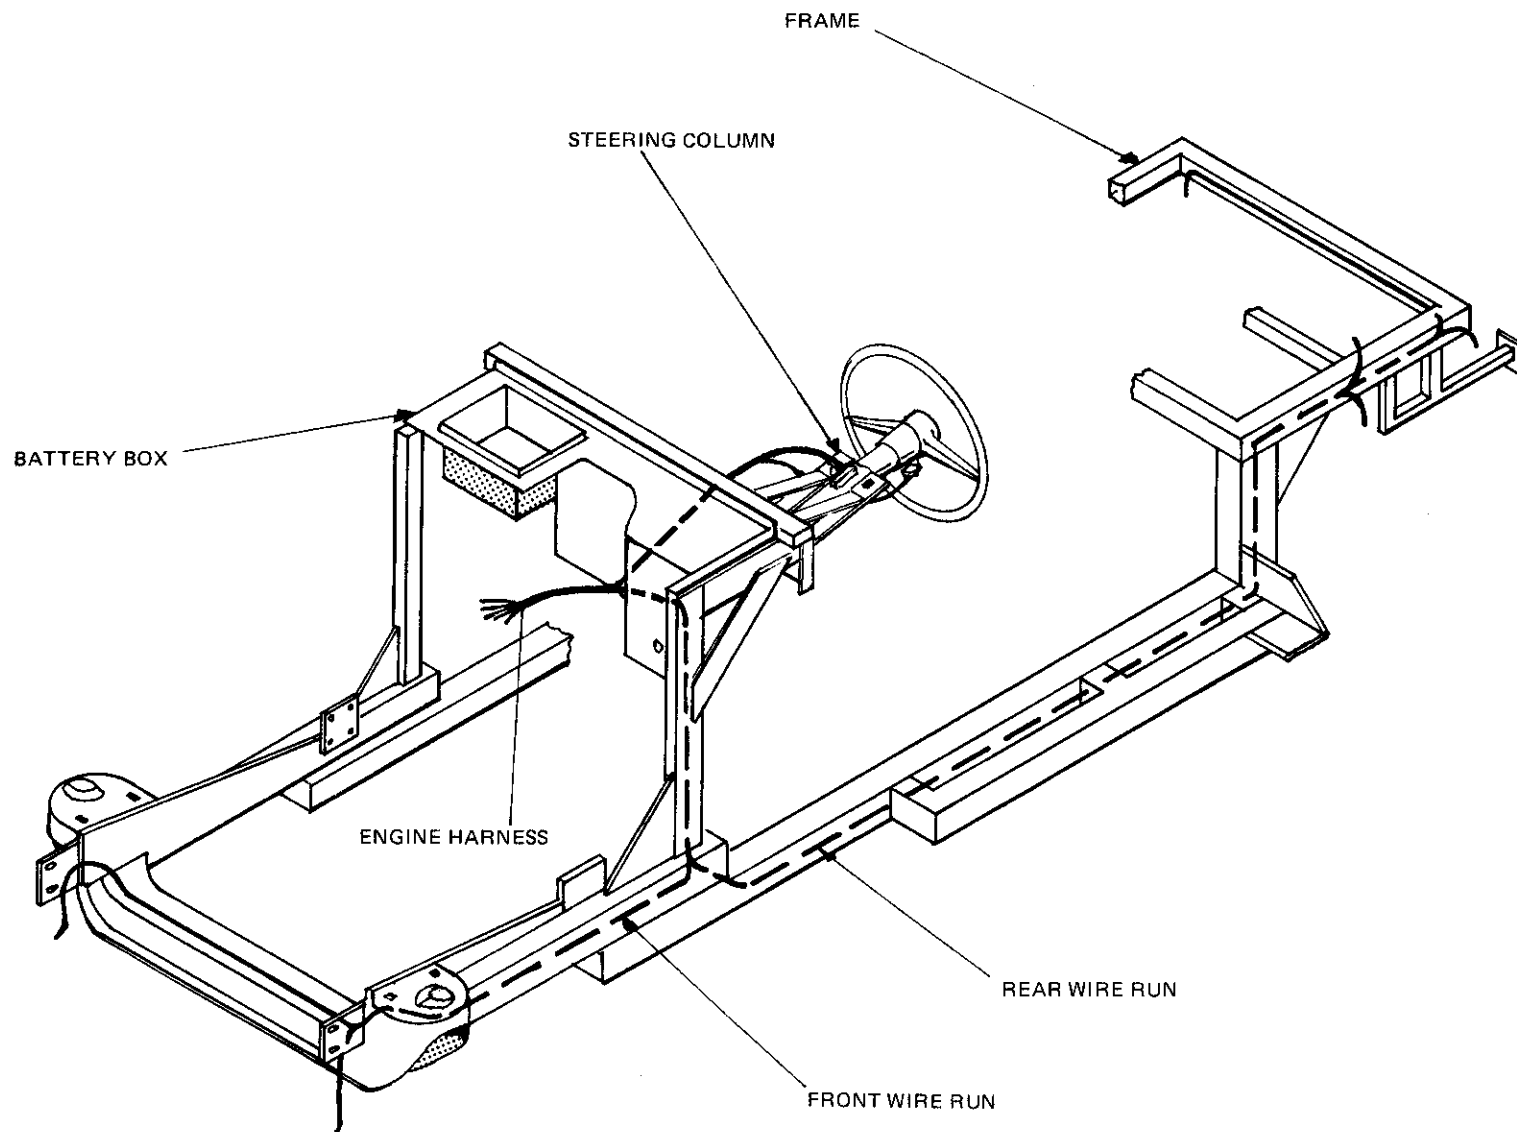

Figure 26
- ☐ The main harness is routed through the battery box. Steering column connections, and instrument harness connections are on the passenger side of the box. All engine connections are on the opposite side. On the engine side of the battery box, is the front and rear branches. These go down to the frame where they split, front and rear. A separate instrument/dash harness connects to all gauges and switches. The two harnesses are joined by the steering column. (Figure 26)